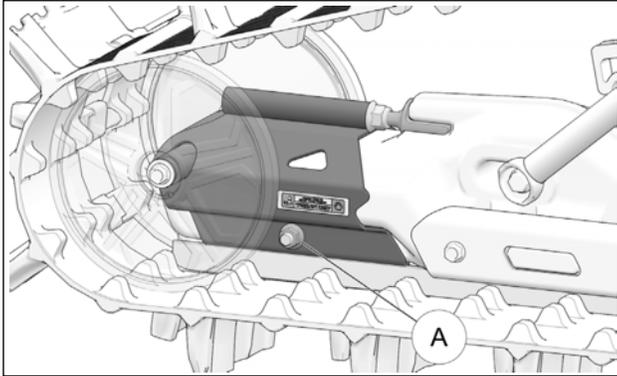

Figure 23
CAUTION: Track Tensioner assembly bolt (A) must be loosened before adjusting track tension. Figure 23.